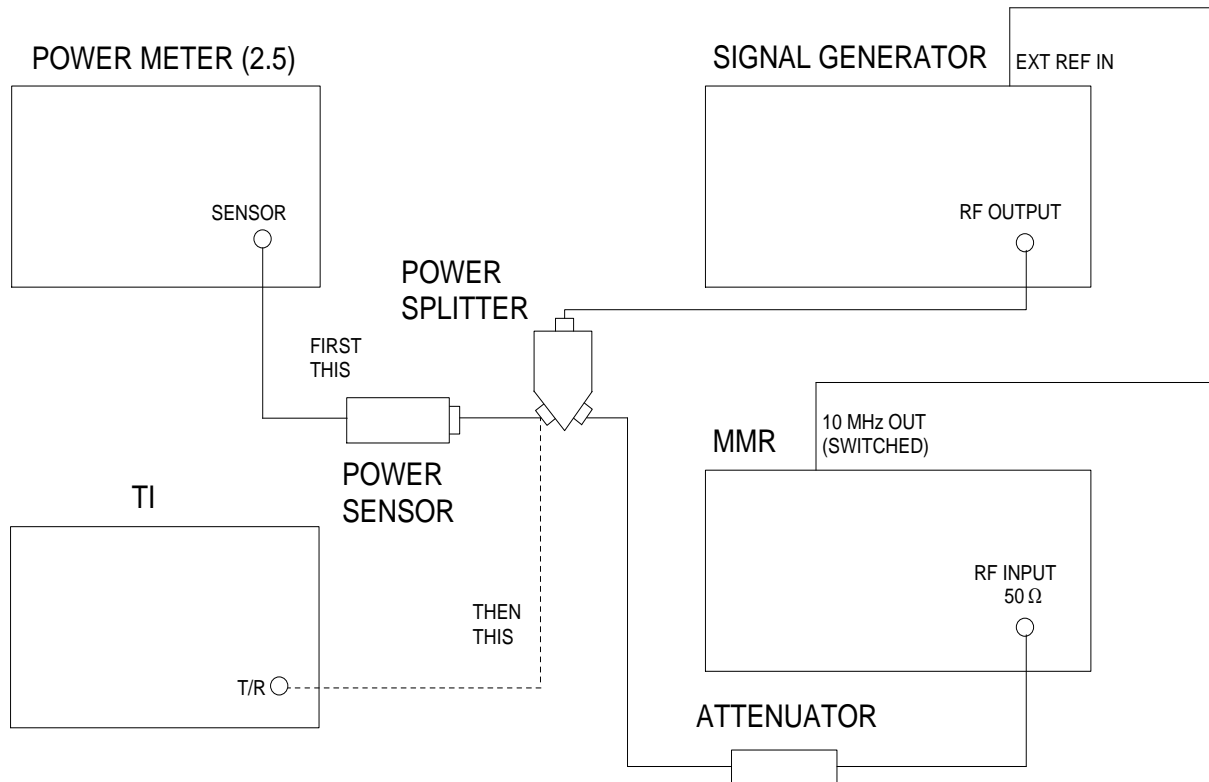

Figure 3.
4.12.4 Connect the equipment as shown in Figure 3.
4.12.18 Set all outputs to minimum. Set the equipment as shown in the original configuration as shown in Figure 3.
4.12.23 Set all outputs to minimum. Set the equipment as shown in the original configuration as shown in Figure 3, except using the TI ANT connector and remove the Attenuator from the test setup.